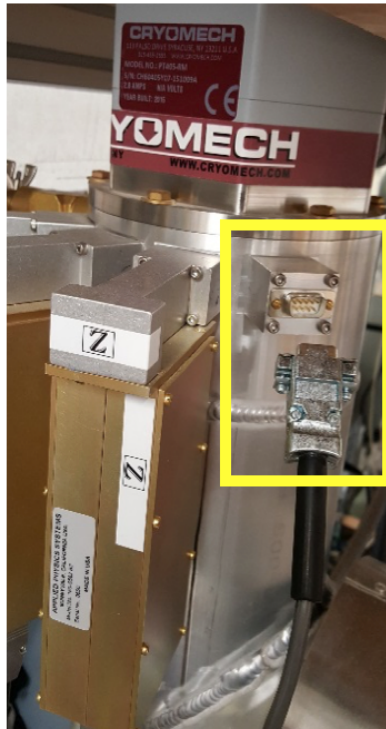

Figure A9: RS232 port on the Cryomech Cold head (yellow box).
4. Connect the Model 202 Control Monitor Rock Mag port to the RS232 port on the cold head (Figure A9).